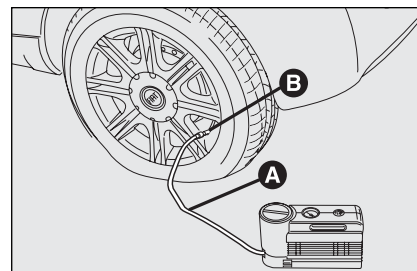

fig. 14
- Pull up the handbrake.** Loosen tyre inflation valve cap, take out the filler hose **A**-fig. 14 and screw the ring nut **B** on the tyre valve;